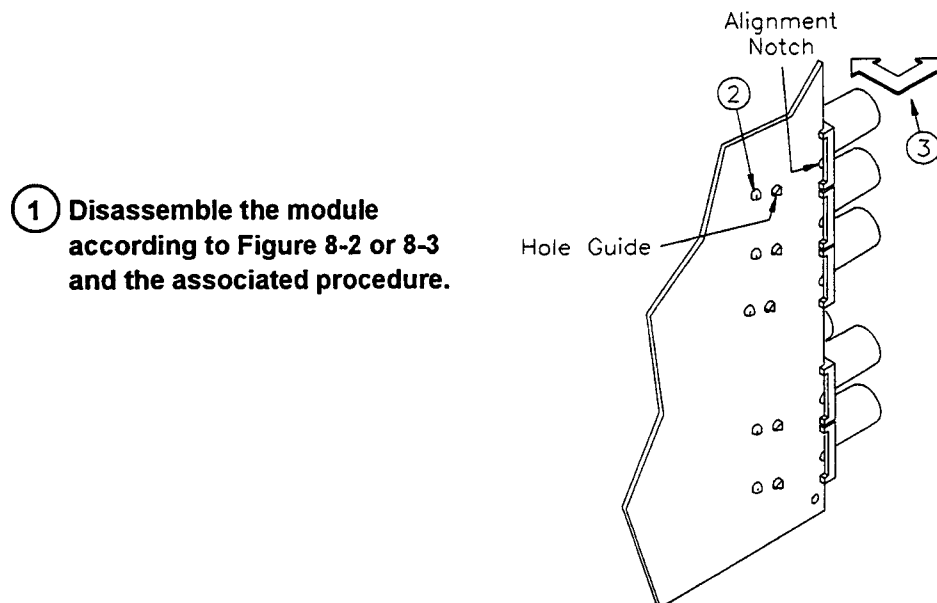

Figure 8-4. Remove/Install an Input Terminal.
- Step 2** Unsolder the terminal from the PC assembly at its one solder point (see Figure 8-4).